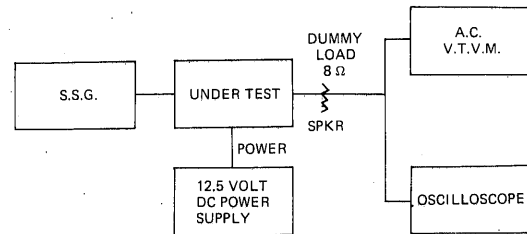

FIGURE 5
1. Connect the equipment as shown in Figure 5.